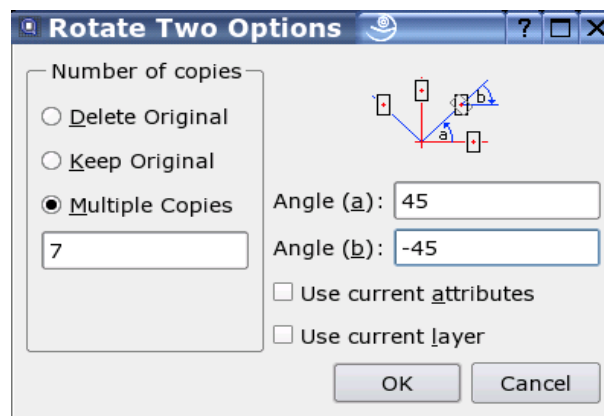

Figure 57: Rotate two options dialog.
5. The rotate 2 dialog is displayed (Figure 57). To move the entities, choose "Delete Original", to copy them choose "Keep Original". Finally you can create a number of copies at once, by choosing "Multiple Copies" and entering the number of copies in the text line below. Note that '7' will create 7 copies and keep the original - so there will be 8 instances of the entities in the end